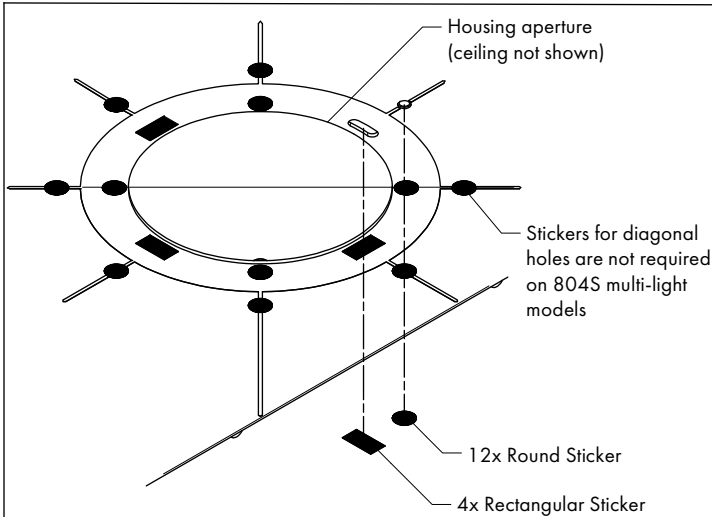
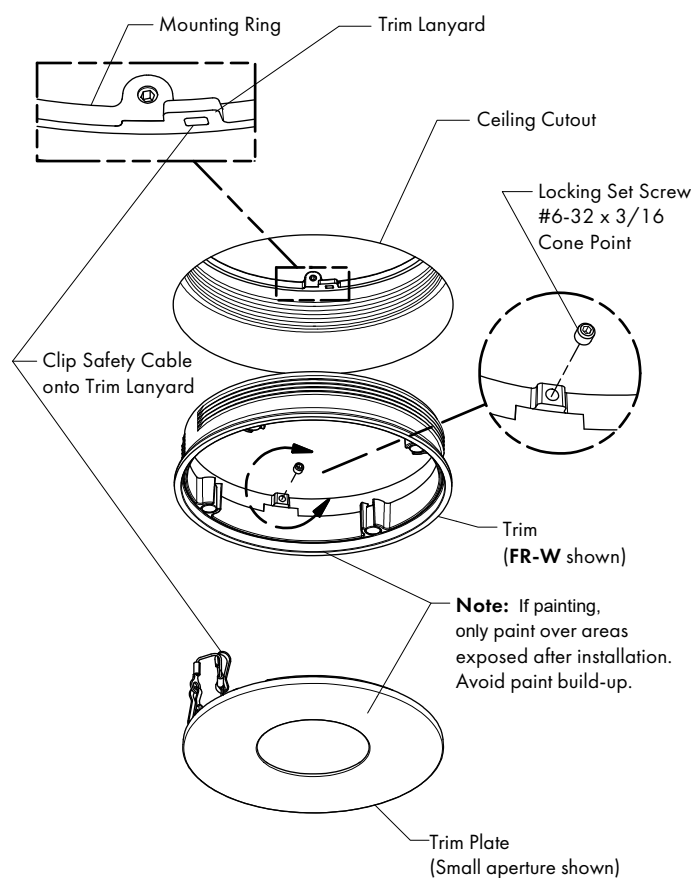

FIG 14.1 Install Housing Stickers
FIG 14.3 Install Trim & Trim Plate
STEP 1 To reduce possibility of light leak, apply round & rectangular Stickers over unused holes & slots around each housing aperture as shown (prior to installing ceiling) - **FIG 14.1**.
STEP 2 If required, paint Trim & Trim Plate (see note in **FIG 14.3**).
Note: After Trim installation (**FIG 14.3**) the Mounting Ring may need to be rotated to align the Trim - See **FIG 14.1, 14.2 & 14.3**.
STEP 4 Thread Trim into Mounting Ring. For **FR-W** & **INR-W** versions, adjust height to be level with ceiling. For **FLR-W** & **FLINR-W** versions, flange must seat flush to ceiling - **FIG 14.3 & FIG 14.5**.
STEP 6 Attach Trim Plate Safety Cable to Mounting Ring - **FIG 14.3**.